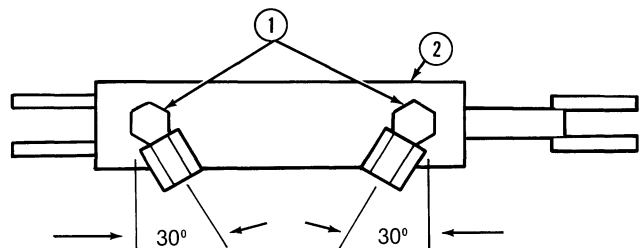

Figure 20
1. Insert two 1/4" x 90° adapter unions, (1), into both ports of the lift cylinder, (2), Figure 20. Use pipe compound or teflon tape on the threads. Position the fittings as shown in Figure 20.